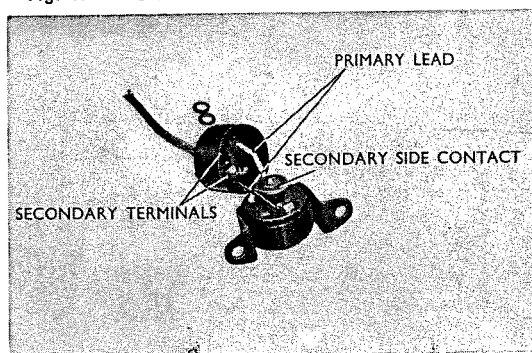

Fig. 5.87 Disassembly of solenoid (when the cover is opened)
- c. The current at the primary side should be below 12 V, 3.5 A (Refer to Fig. 5.87 and 5.88)